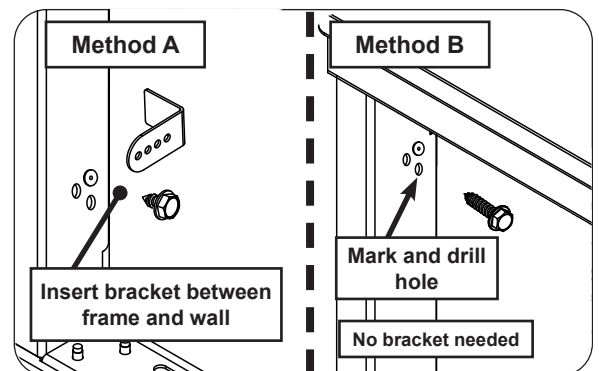

Fig. 1-3 Installation methods
6. Install the bracket hardware kit as applicable to your island enclosure. See Fig. 1-3. This kit can be installed using two methods. Find your preferred method on the next page. See the **DOOR, DRAWER, & PANTRY INSTALL SPECIFICATIONS** instructions for more details on this bracket hardware kit.